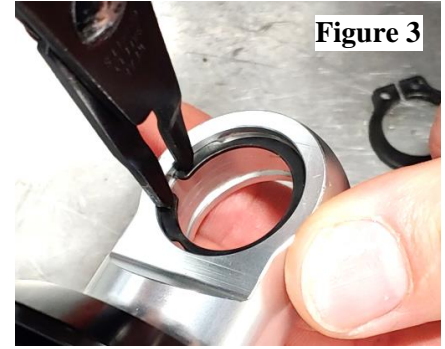

Figure 3
1. Using c-clip pliers and safety glasses, install one internal c-clip into one of the two grooves in the lower shock eyelet. **(Figure 3)** Double check that the c-clip is seated in the groove.